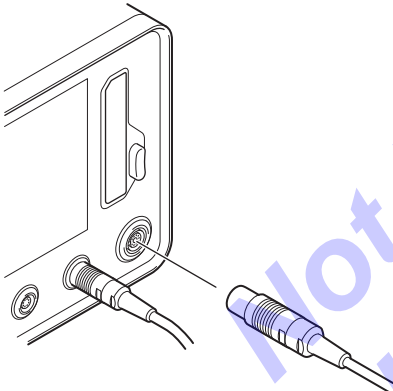

Figure 111 – Handpiece Disconnection
1. Disconnect the handpiece from the console (Figure 111).